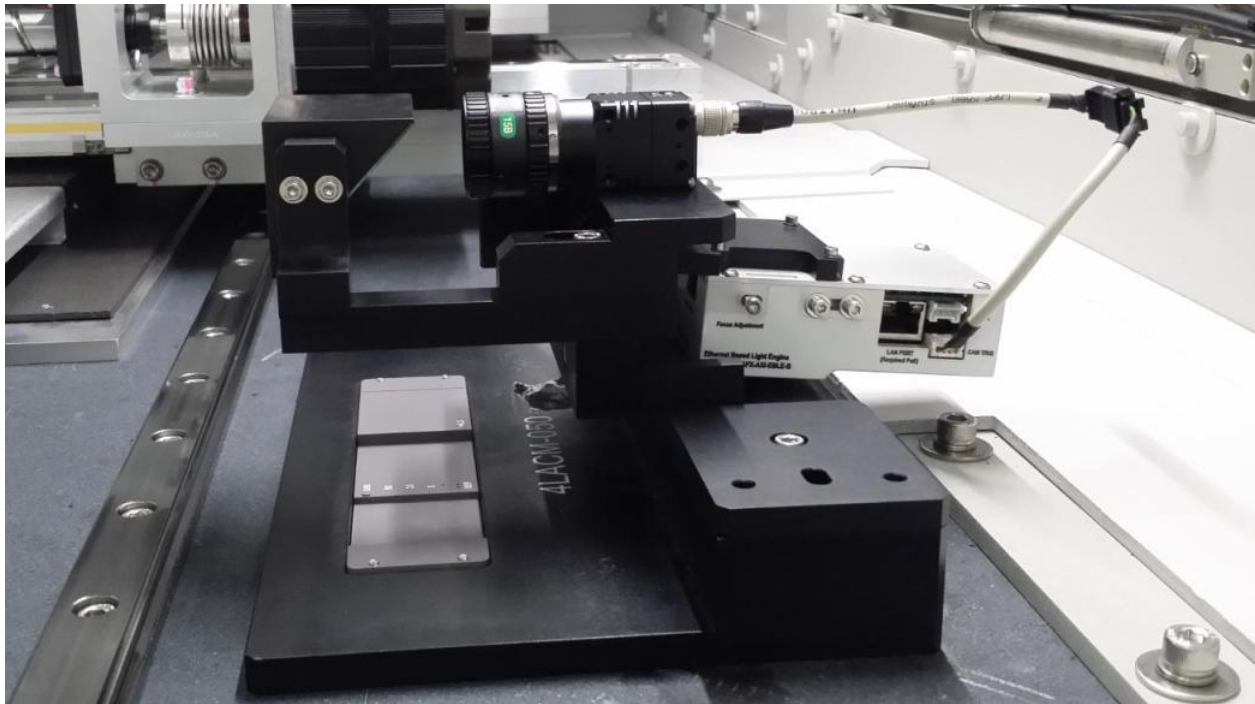

Figure 3 OFFLINE JIG & MODULE LOCATION
- Open Front Access Door , gently allocate “STD/XXL PSP Offline Adjustment Jig ” (Part ID- 4XASPP-A002) at Granite area (May refer to below Figure 3 for the desire location)